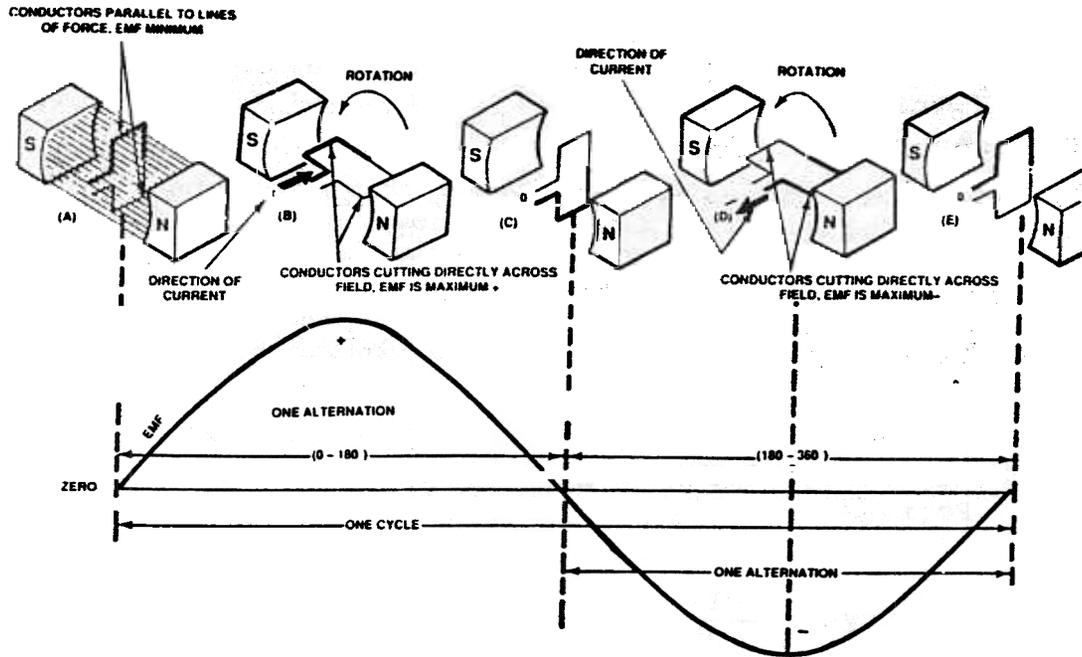

FIGURE 6
As may be seen in FIGURE 6, the basic AC generator with a coil of wire for a conductor can be used at various points or angles of rotation to show the generation of an AC sine wave.
The waveform generated by the rotor of the generator in FIGURE 6, is called a SINE WAVE. The sine wave is so called because the amount of voltage generated at any point on the circle of the generator is equal to the sine of the angle times the maximum the generator can produce.
At this time it may be recognized that the sine wave produced in FIGURE 6, was the result of one revolution of the generator rotor.
The sine wave shown in FIGURE 6, is divided into two parts called the ALTERNATION. There are two alternations in one period. One is positive and one is negative. Thus we may say the time for one alternation is one half the period. This will later be referred to as the PULSE WIDTH (PW).